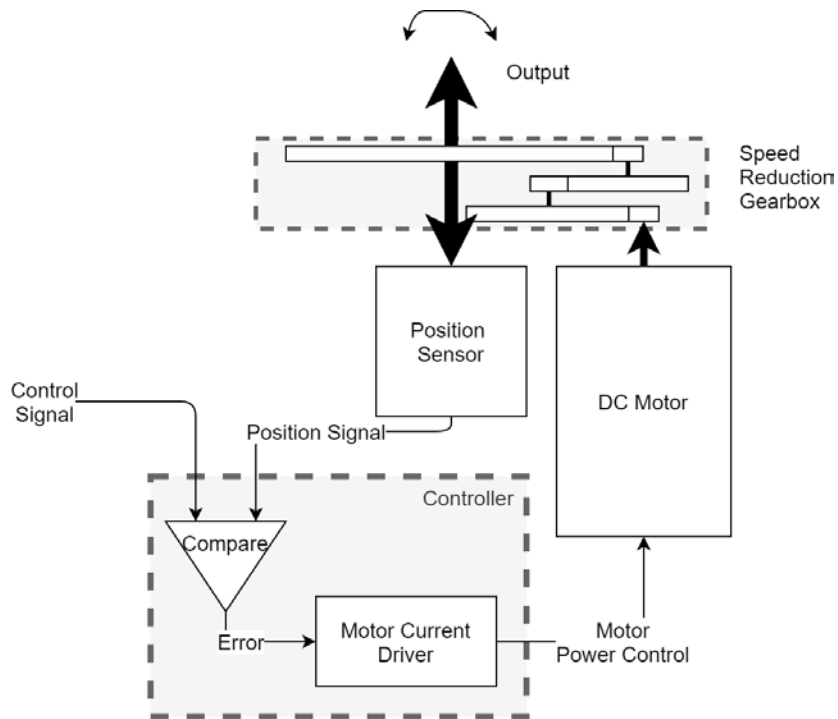

Figure 2.5 – Pictorial diagram of a servo motor mechanism
3. **Servo motor (or servomechanism):** This type of motor combines a gear motor with a sensor and a built-in controller as shown in *Figure 2.5*. A signal to a controller states a motor position, and the controller uses feedback from the sensor to try to reach this position. Servo motors are used in pan and tilt mechanisms, along with robot arms and limbs. We will look more closely at, and program, servo motors in *Chapter 10, Using Python to Control Servo Motors*: